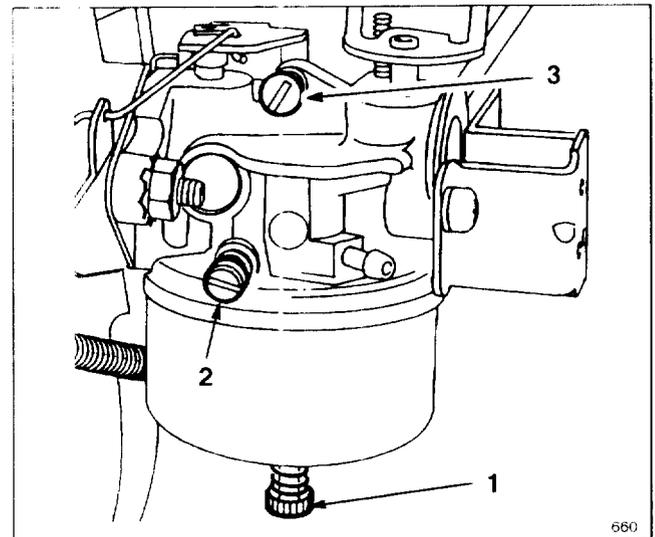

Figure 29
2. Power Adjusting Screw (Fig. 29)—Close screw by gently rotating it clockwise until a slight seating resistance is felt. Next, rotate power adjusting screw one full turn—360°—counterclockwise.
3. Idle Mixture Screw (Fig. 29)—Close screw by gently rotating it clockwise until a slight seating resistance is felt. Next, rotate idle mixture screw 1-1/2 full turns counterclockwise
5. Rotate power adjusting screw (Fig. 29) clockwise—in—1/8 turn at a time until engine misses because of a lean gasoline mixture. Then rotate screw counterclockwise—out—1/8 turn at a time until engine runs unevenly because of a rich gasoline mixture. Next, rotate power adjusting screw clockwise, back to the midpoint between the rich and lean settings, so engine runs smoothly.
7. Rotate idle mixture screw (Fig. 29) clockwise—in—1/8 turn at a time until engine begins to miss because of a lean mixture. Then rotate screw counterclockwise—out—1/8 turn at a time until engine runs unevenly because of rich mixture. Next, rotate idle mixture screw clockwise back to the mid-point between rich and lean settings.
8. Again, rotate idle speed screw (Fig. 29) until engine idles at 1750 rpm.